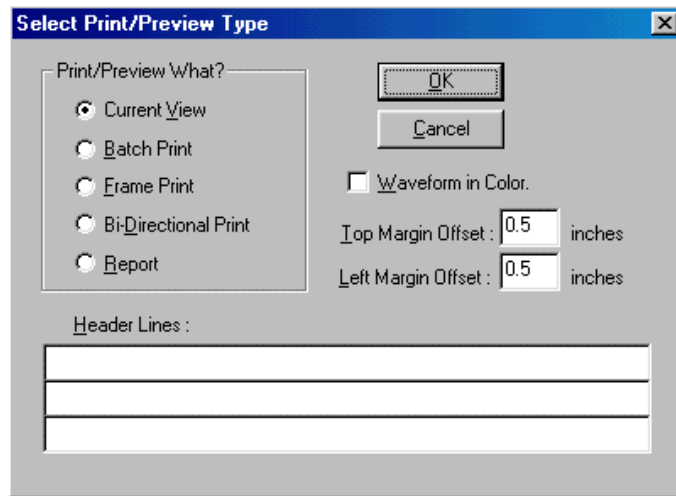

Figure 10-1: Select Print/Preview Type Dialog Box
3. Select **File>Print** (or **Print Preview**). The Print/Preview dialog box shown in Figure 10-1 will be displayed.